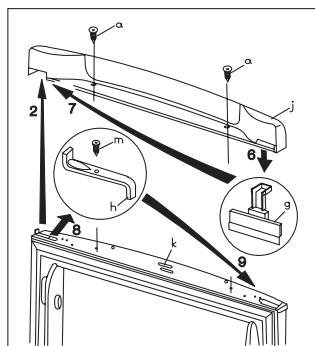

Fig. 2
- Open the door of the fridge, dismantle the top cover (j) by removing the 2 screws (a), then close the door (Fig. 2).
- Move the panel (g) from one side of the top cover (2) to the other (Fig. 2).
- Unscrew the screw (m), remove the door stopper (h) and attach reversed on the other side (Fig. 2).
- Open the fridge door, attach the top cover (j) using 2 screws (a); at the same time pay attention to the repositioning of the magnet (k), then close the door (Fig. 2).